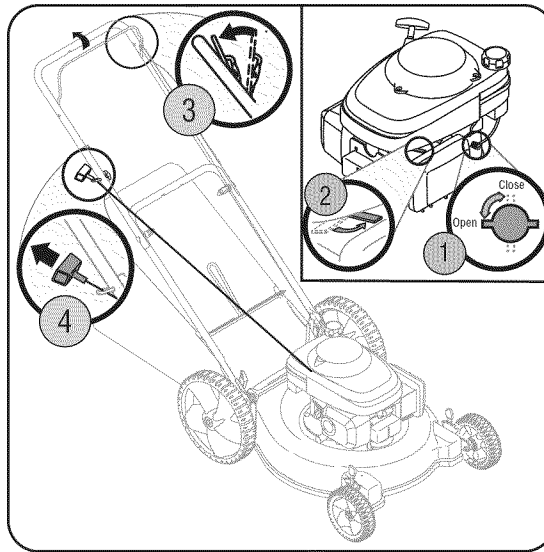

Figure 2
1. Place the fuel valve lever found on the left side of the engine into the OPEN position. See Figure 2 inset.
3. Standing behind the mower, squeeze the blade control against upper handle. See Figure 2.
4. Holding these two handles together firmly, grasp recoil starter handle and pull rope out with a rapid, continuous, full arm stroke. See Figure 2. Keeping a firm grip on the starter handle, let the rope rewind slowly. Repeat until engine cranks. Let the rope rewind each time slowly.